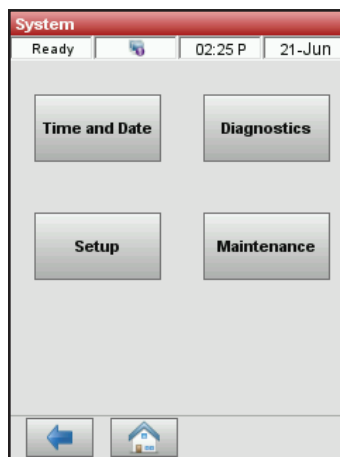
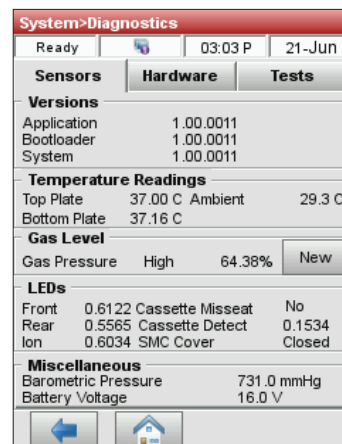

Figure 29. System Manager screen
Figure 30. System Manager > Diagnostics > Sensors tab
2. Tap **Diagnostics** (figure 29) and then tap the **Sensors** tab (figure 30).